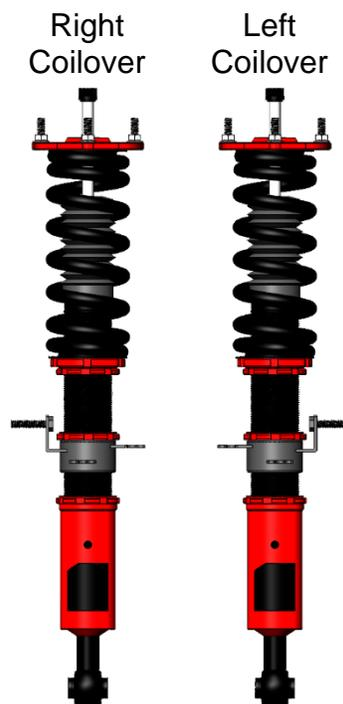

Figure 4
- While supporting the OE Coilover, fully remove the (3) three nuts at the top of the Coilover in the engine bay. Retain this hardware.
- Locate the Z1 Front Coilovers. Set the Coilovers down next to each other. *Figure 4*.